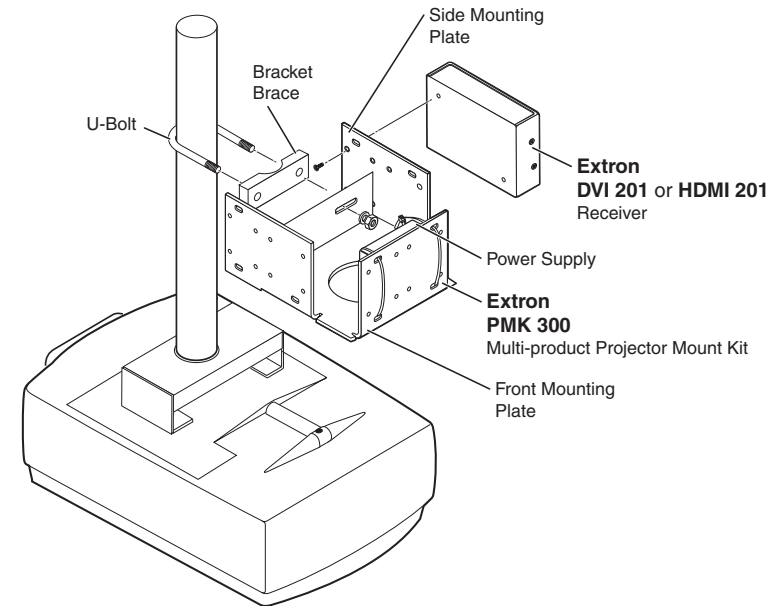
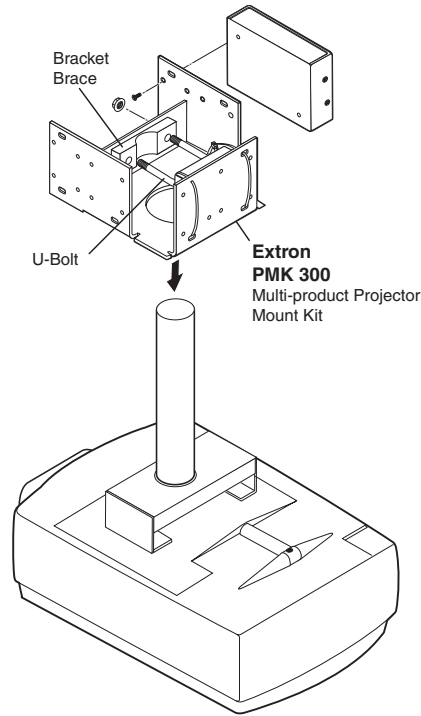

Figure 2-5 — PMK 300 projector mounting a receiver
Figure 2-6 — Projector pole on the inside
2. Mount the receiver to one of the bracket's three mounting plates using two of the supplied 4-40 x 3/16" screws in opposite (diagonal) corners to secure the device to the bracket. It can be vertically mounted facing either up or down (figure 2-5).
- NOTE** The PMK 300 has a hole in the bottom plate that allows the projector pole to be inserted through the center of the plate (figure 2-6), rather than outside of the plate (figure 2-5). To install the PMK 300 in this configuration, slide the bracket up from the bottom of the pole before the projector is installed on the pole.